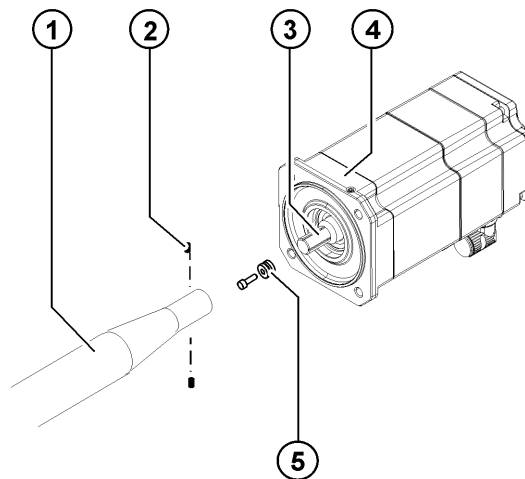

Fig. 11-11: Motor with connecting shaft
1. Remove all protective coatings and oil from the new motor A4 (>>> Fig. 11-11).